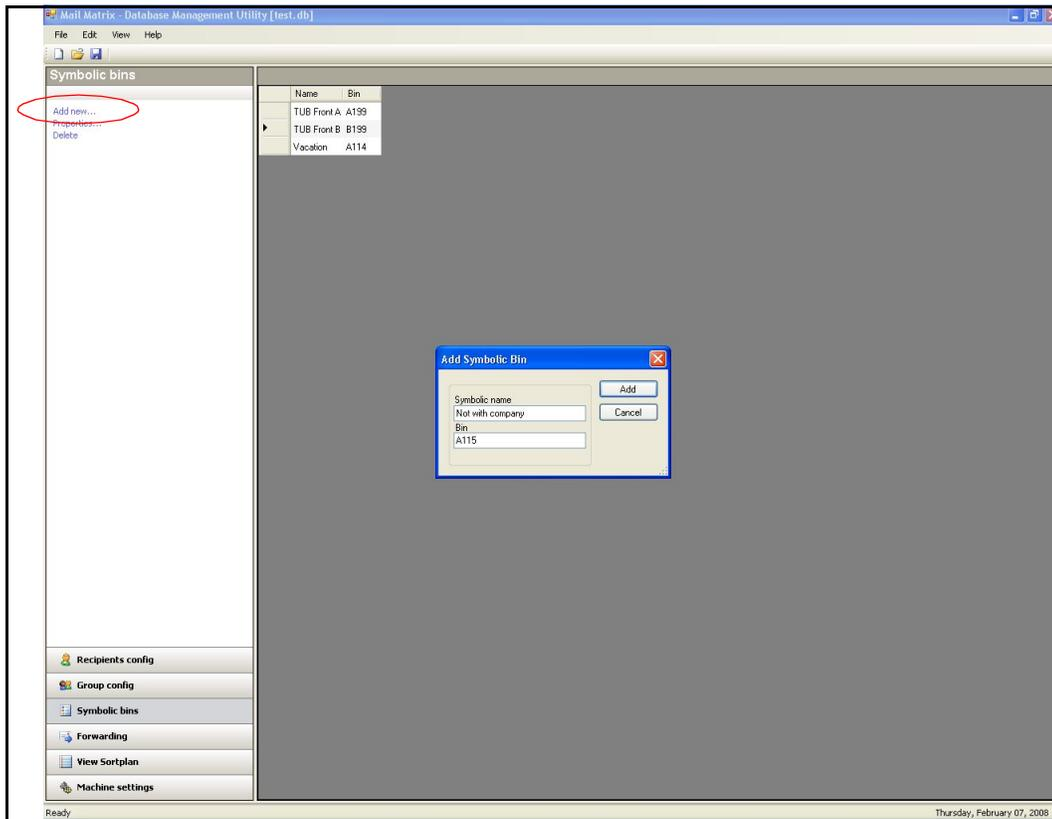

Figure 176: Add symbolic bin
2. Click **Add new...** to bring up the Add Symbolic Bin dialog box (Figure 176).